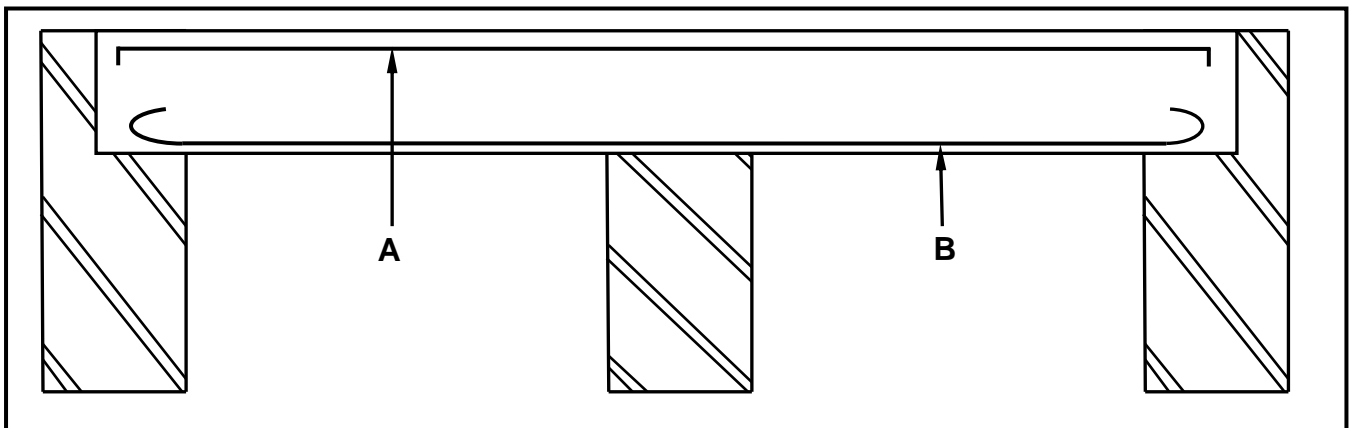

FIGURE 6.4
- 6.4 FIGURE 6.4 below shows an incomplete vertical sectional view through a continuously supported beam.